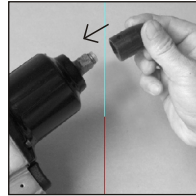

Figure 6
5. Choose the correct impact socket (not provided) as needed and mount it onto the anvil. (See Figure 6)